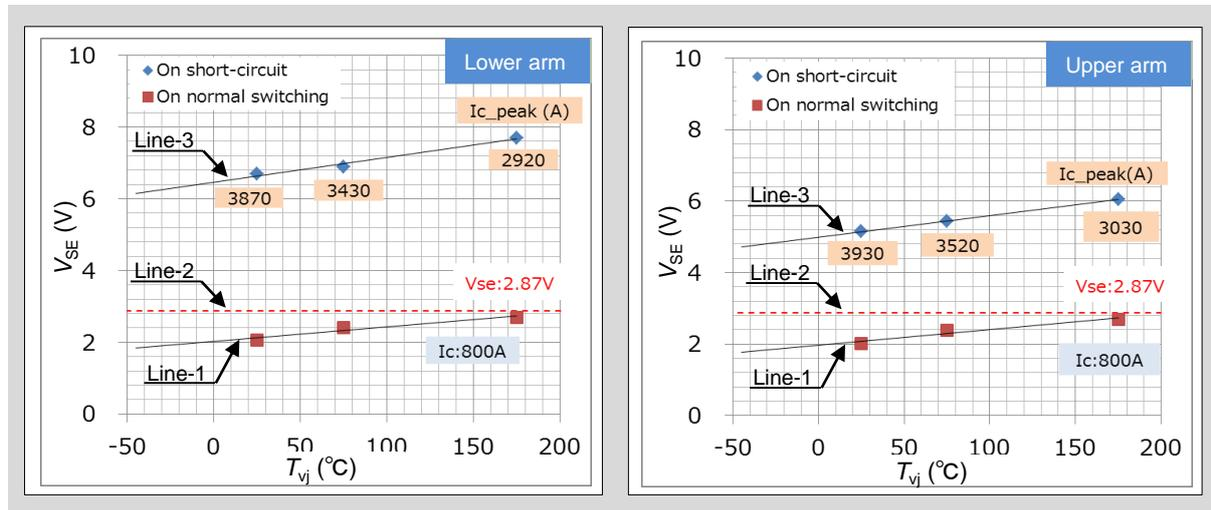

Fig. 8-11 SC protection function characteristics in terms of  $V_{SE}$
When 120( $\Omega$ ) of  $R_{SE}$  and 800(A) of IC are used, typical example result: Line-1 is shown in Fig. 8-11.